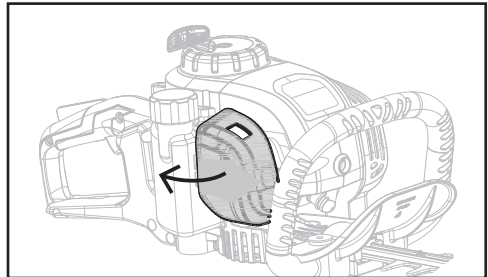

Fig. 15
2. Remove the air filter cover. To remove, press the Red button on the top of the cover with thumb and gently push up the cover with index finger, (see Fig. 15).